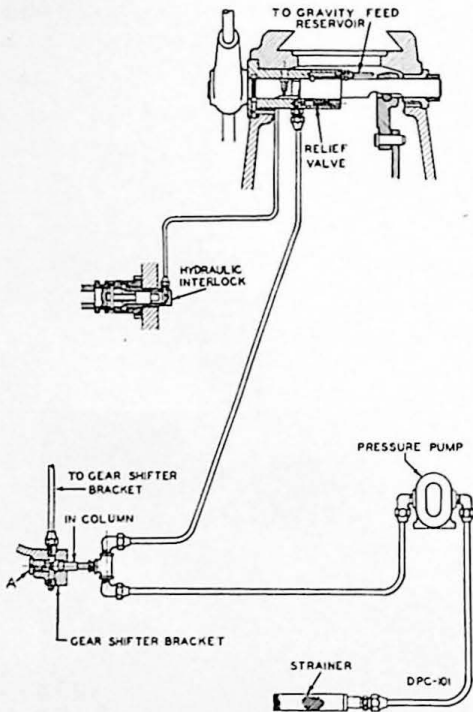

Figure 30
1. Remove screw plug "A", Fig. 30, at bottom of gear shifter bracket. Screw at least a 500 lb. hydraulic gage in this connection. This is a $\frac{3}{4}$ —16 R. H. tapped hole and requires a special fitting, or drill and tap $\frac{1}{4}$ " pipe thread through plug "A" for gage.